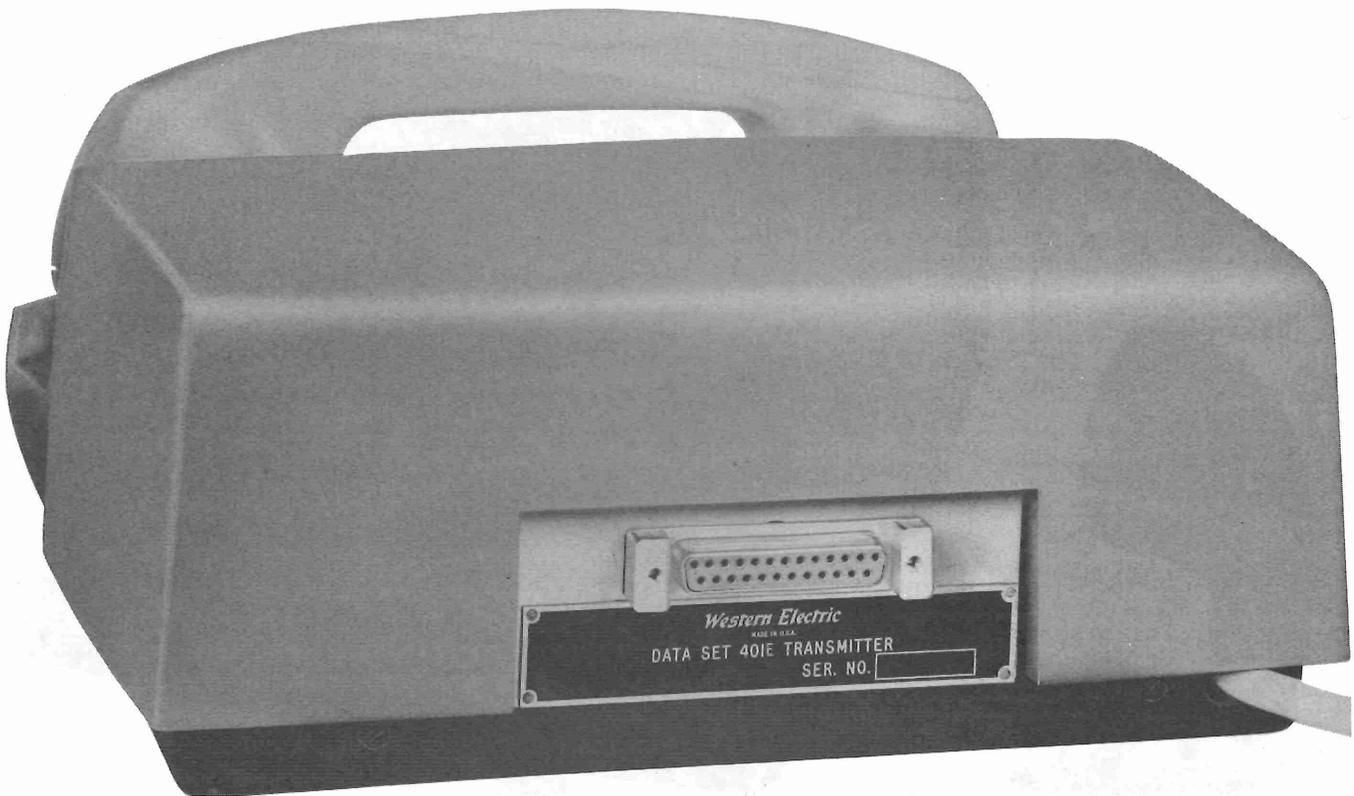

Fig. 3—Data Set 401E-Type—Rear View
**2.04** Interface connections are made through a KS-19087-L2 connector located at the rear of the set (Fig. 3). The corresponding plug (Cannon or Cinch DB-19604-432) and connecting cord must be provided by the customer.